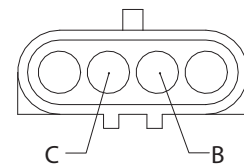

Figure 24
5. Attach multimeter leads to pins “B” and “C” of limit switch connector (see Figure 24). This contact is normally open and closes when pressed.